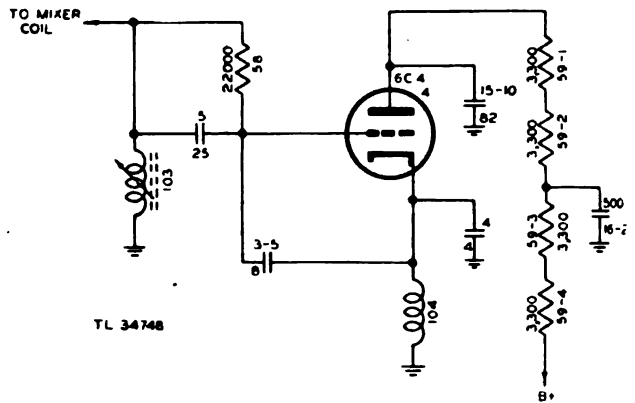

Figure 85. Local oscillator, partial schematic.
**b. OSCILLATOR.** The oscillator is a modified Colpitts type. (See fig. 85.) The plate capacitor is replaced by coil 104, which is resonant below the lowest operating frequency of the oscillator, making the coil appear as a capacitive reactance. The frequency of the oscillator is determined by capacitor 3-5 and coil 104 connected in series, acting as a capacitor in resonance with coil 103. At the low frequency end of the band it is possible to tune the oscillator to two frequencies, one above the signal frequency and the other below the signal frequency. Because of this and because there is a certain amount of interaction between the oscillator and the mixer the dials (OSC. and DET.) for these two circuits should always be set